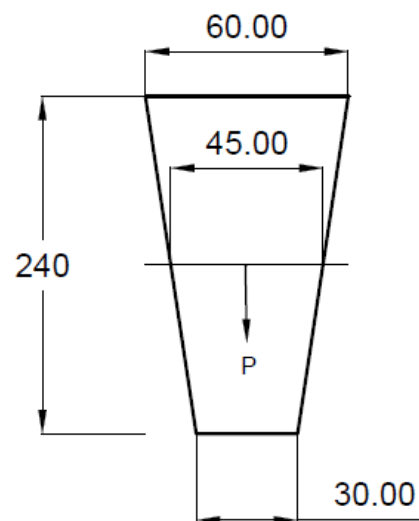

Fig. 2
5. A tapered bar of unit thickness shown in fig. 2 is subjected to a point load. Accounting to the body force, the weight density $f = 46.6 \times 10^{-6} \text{ N/mm}^2$, $E = 200 \text{ GPa}$ & $P = 1000 \text{ N}$